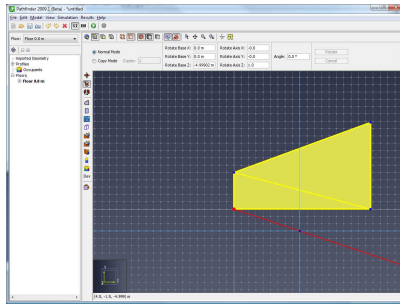

Figure 137. Base point of rotation
- The first specifies the base of rotation (Figure 137).